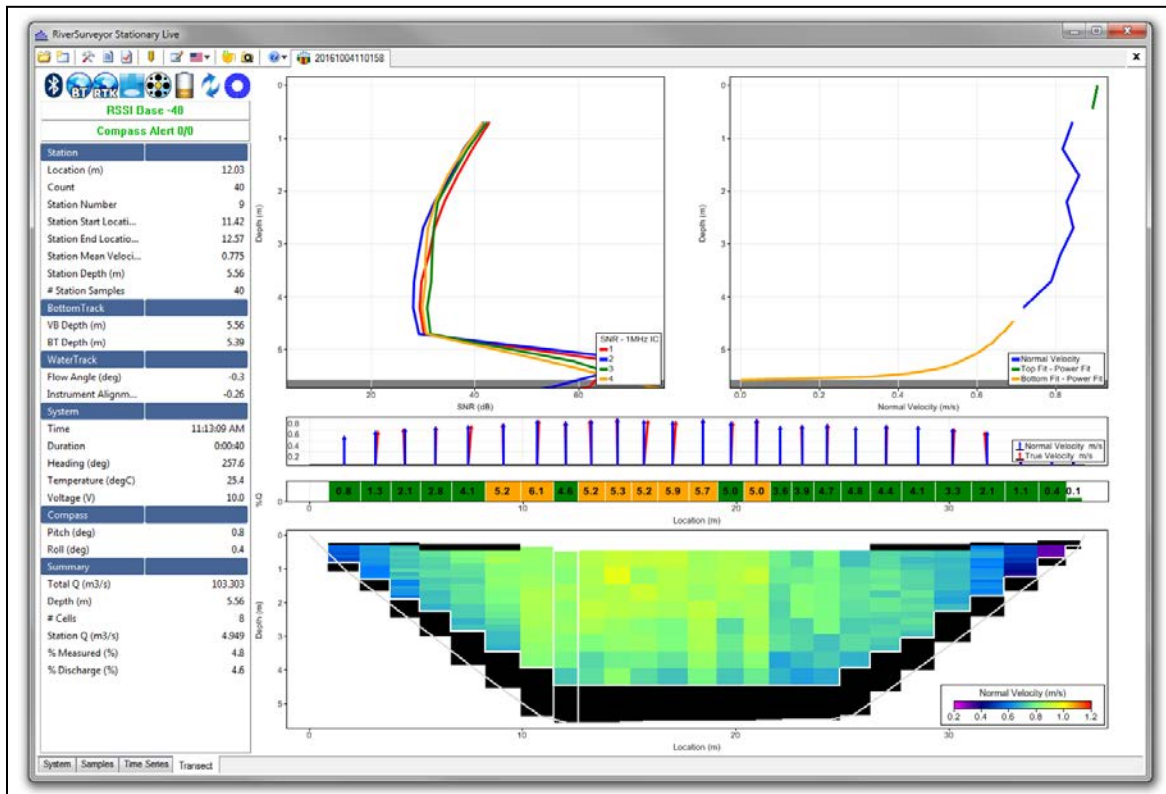

Figure 143. Data Collection Screen
- **Transect Tab:** This tab shows the same plots that you see during each station measurement. Clicking on a station location in the bottom transect plot automatically changes the top profile plots to reflect data from that location (Figure 143).